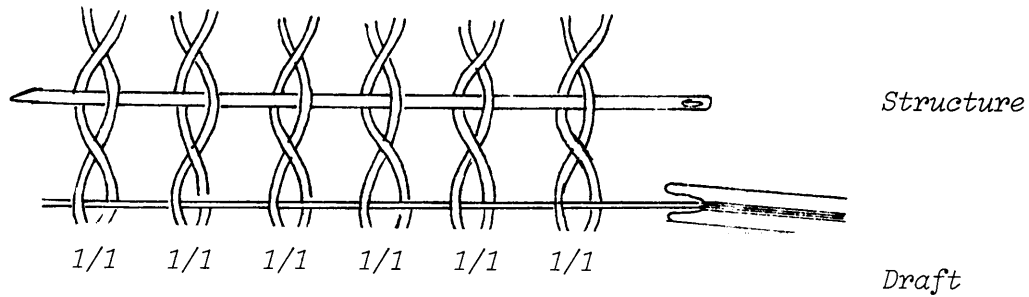

Fig. 2 *Antique Mexican Singles*
1. Antique Mexican Singles (illustrated in Fig. 2).